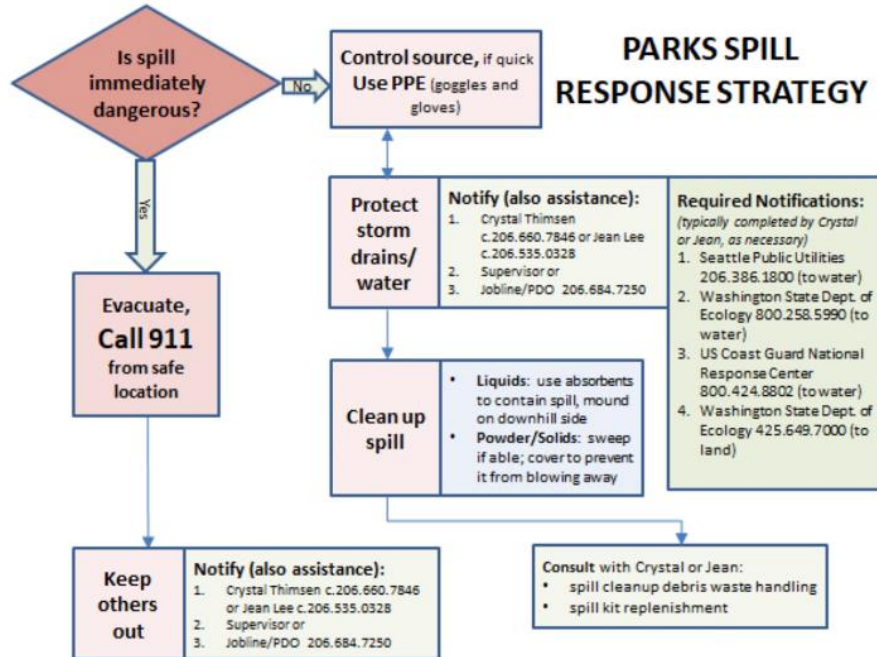

Figure 1: Seattle Parks and Recreation Spill Response Strategy
- If soils are unstable and an erosion control practice is determined to be necessary below the OHWM, coir mat shall be installed along the banks. Install only the coir as shown along the upper (outermost) banks within the detail (Figure 1). Install coir so that any upstream mat is laid over any downstream mat where they meet. Overlap shall be 12" with staples installed through overlap (refer to CSSM BMP E1.15 pg=154).